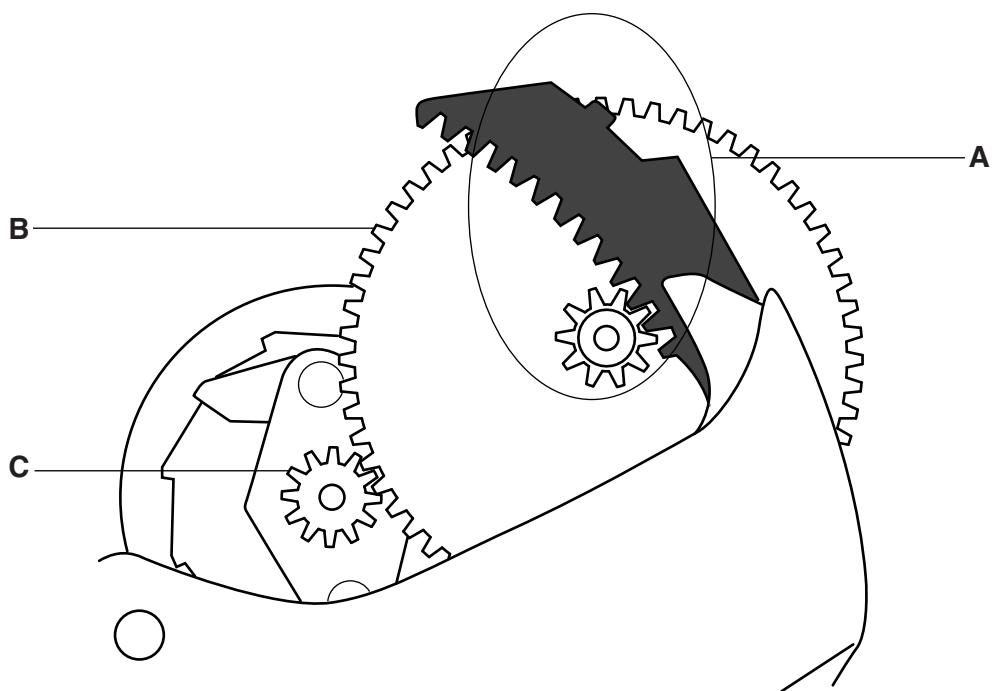

Fig. 4
- 2 Fig. 4 shows part of the internal mechanism of a squeeze-action LED torch.
- (iii) Draw arrows on Fig. 4 to show the direction of movement of parts **A**, **B** and **C**. [3]